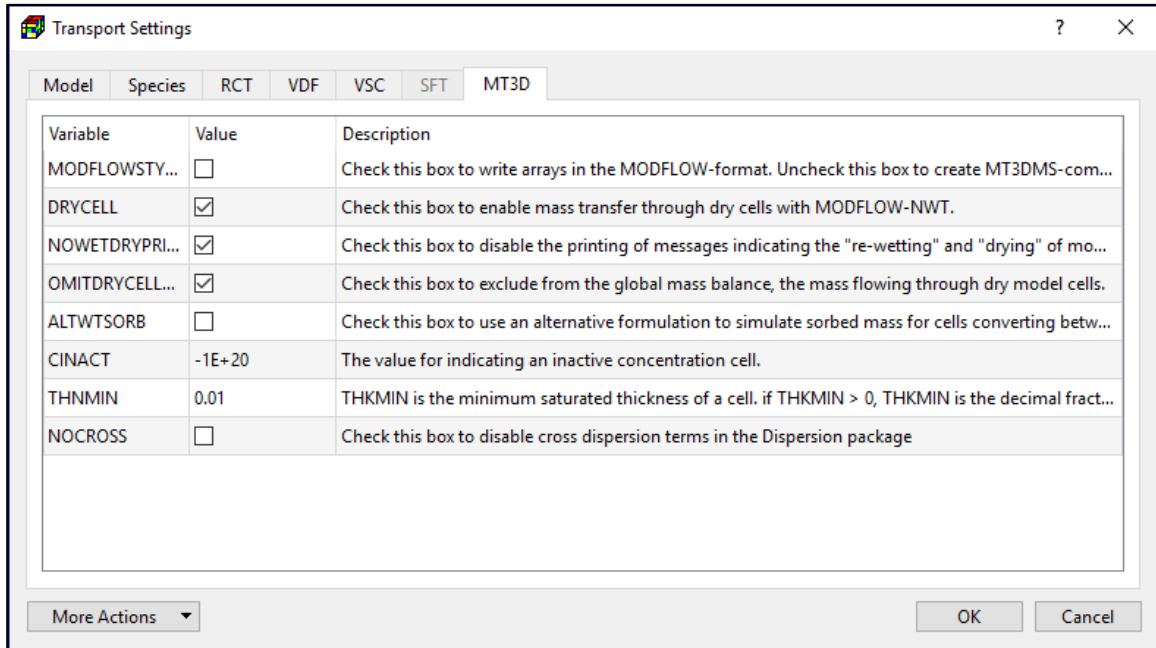

Figure 102. The MT3D tab of the Transport Settings dialog box
8. **MT3D Tab** (Figure 102) contains options and control data of MT3D.